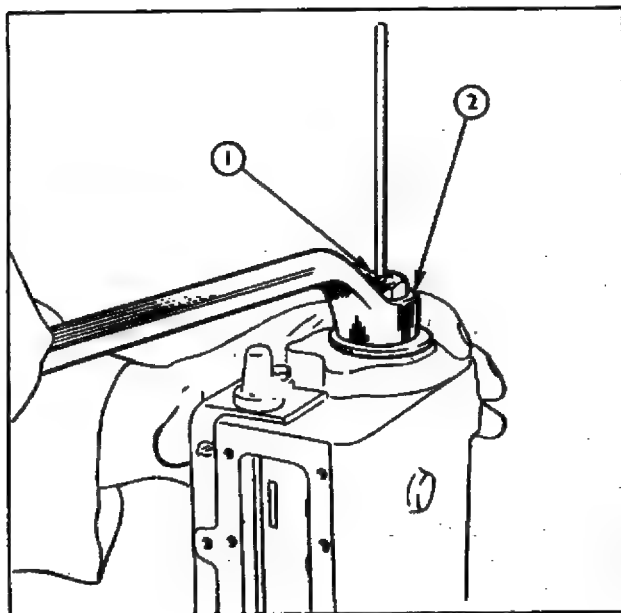

Fig. 25
1. Replace the camshaft bearing cups, using Tool No. CT.9051 by first assembling the cup to the tool, then locating this assembly on the inside of the bearing bore. Assemble the washer and nut of the tool from outside, and use a ring spanner to tighten the nut and draw the bearing into position (see Fig. 25). When fitting the front bearing fit the oil seal at the same time ensuring that the lip is inwards.